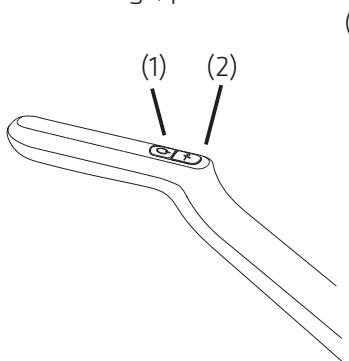

Fig.4-1a
There are two buttons including power button (1) and shifting button (2) (see Fig.4-1a). Press down the power button (1) to start the suction motor and roll brush motor. The floor brush indicator turns on and the appliance enters working condition.